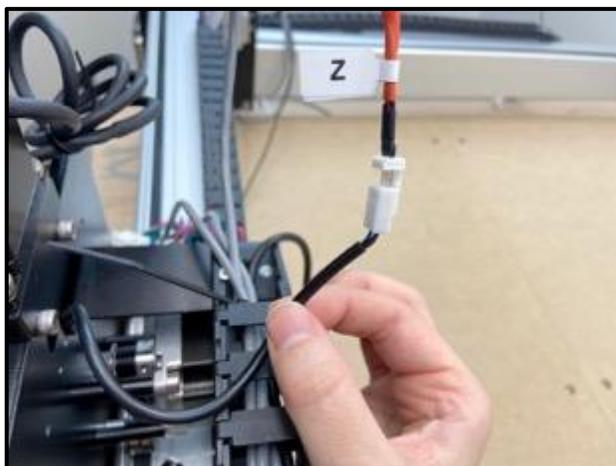

Figure 7-10
2. Properly align and connect the two cables. See *Figures 7-10* and *7-11*.